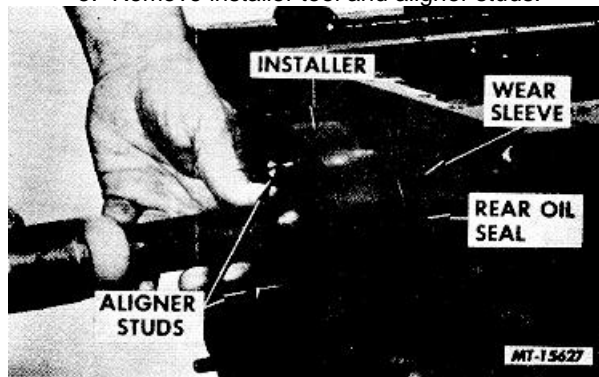

Fig. 152 Installing Rear Oil Seal
- a. Install aligner studs SE-2092-3 into end of crankshaft flange (Fig. 152).
- d. Position installer tool SE-2092-1 over aligner studs (Fig. 152) and drive oil seal into crankcase bore as follows: